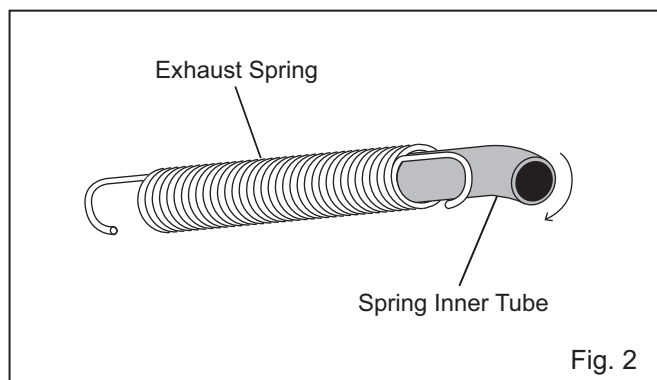

Fig. 2
- 3) Insert Spring Inner Tube into Exhaust Spring (Long). (See Fig. 2)